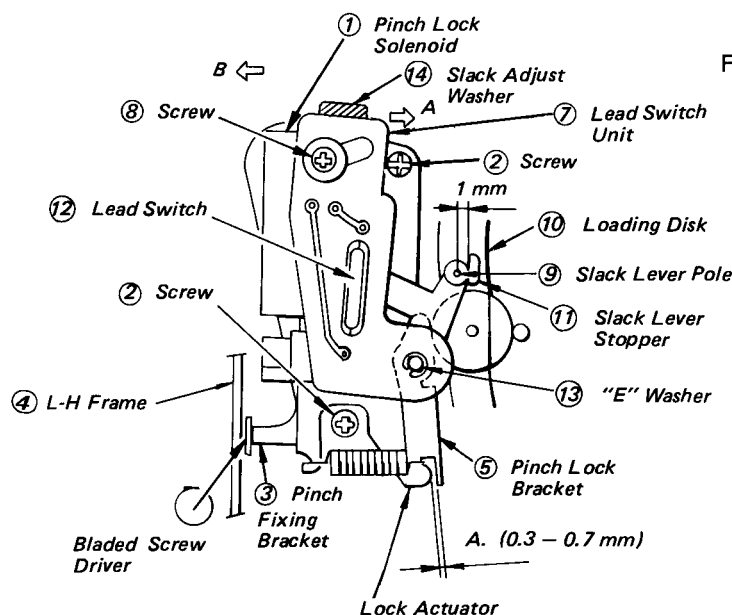

Fig. 5-85 Pinch Lock Assembly Checking, Pinch Roller Pressure Adjustment, and Lead Switch Unit Positioning
26-2. Correction (Fig. 5-85)
27-1. Checking (Fig. 5-85)
4. Make certain that the clearance A between the pinch lock bracket ⑤ and lock actuator is 0.3 to 0.7 mm (see Fig. 5-85).
5. Make certain that the lead switch ⑫ is turned on for auto-stopping when the slack lever is gradually moved to position the slack lever pole ⑨ at a distance of approximately 1 mm from the slack lever stopper on the loading disk (see Fig. 5-85).
27-2. Adjusting Pressure of the Pinch Roller (Fig. 5-85)
27-3. Lead Switch Unit Positioning (Fig. 5-85)
27-4. Adjusting Height of the Lead Switch (Fig. 5-85)